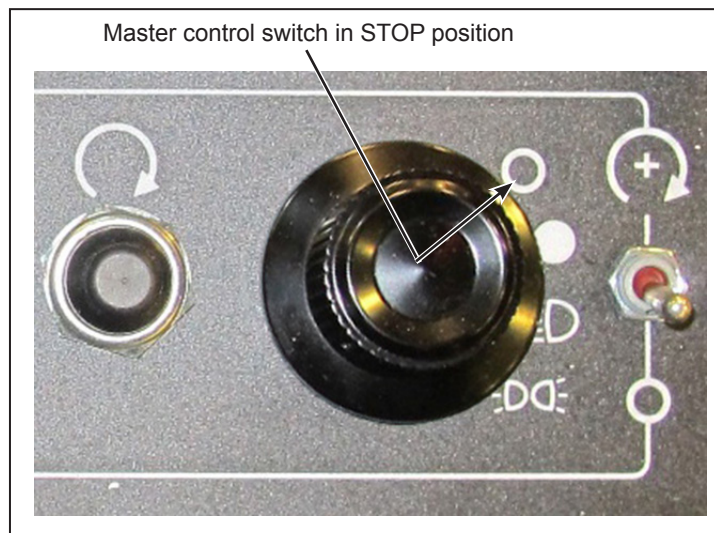

Figure 1 - Master Control Switch in STOP Position
- 1.4. Set the Master control switch in the STOP position (see Figure 1).